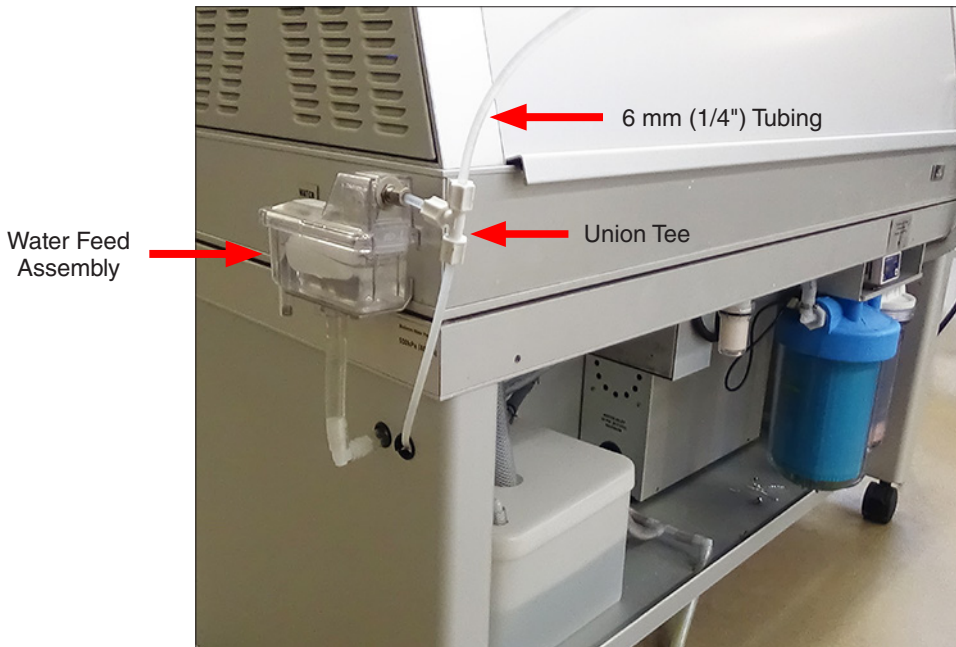

Figure 6.4h: Water supply connection for QUV/spray/rp testers.
- Connect a 6 mm (1/4") water supply tube to the union tee on the water feed assembly (Figure 6.4h).